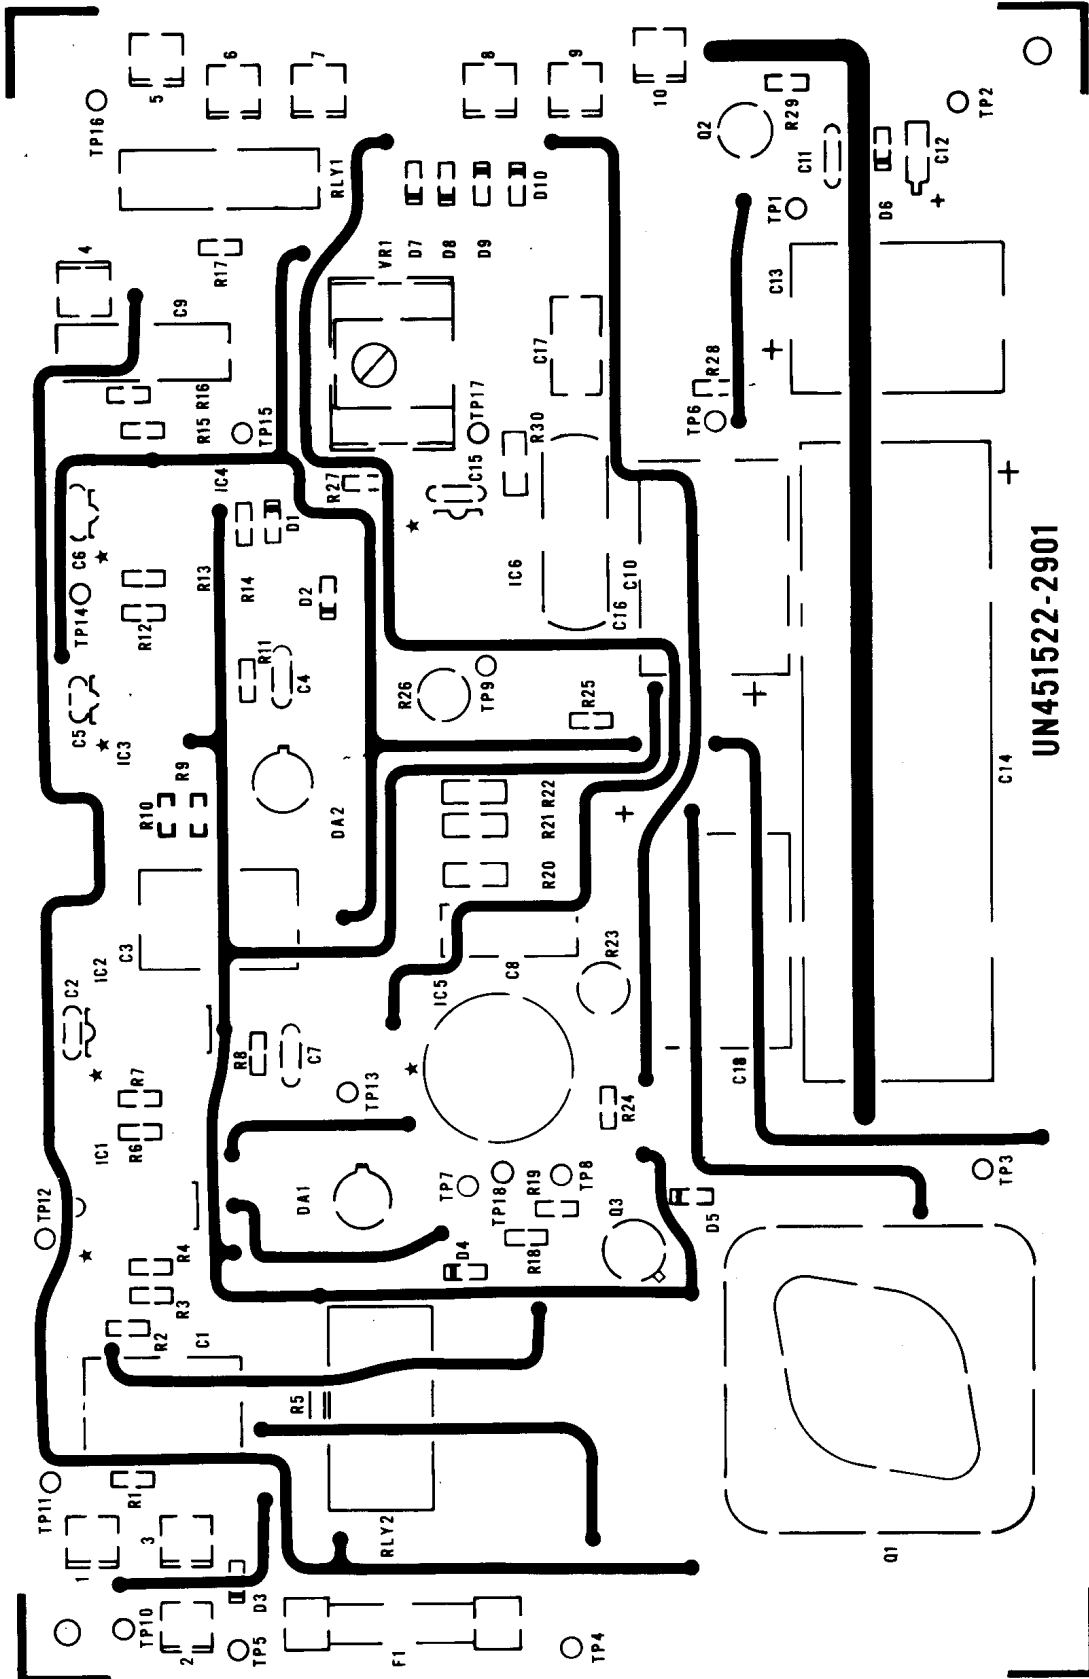

Figure 8-3: DR-50 Radar P.C. Board Component Locations
8.3 P.C. Board N451522-2901 (Reference Figure 8-3)